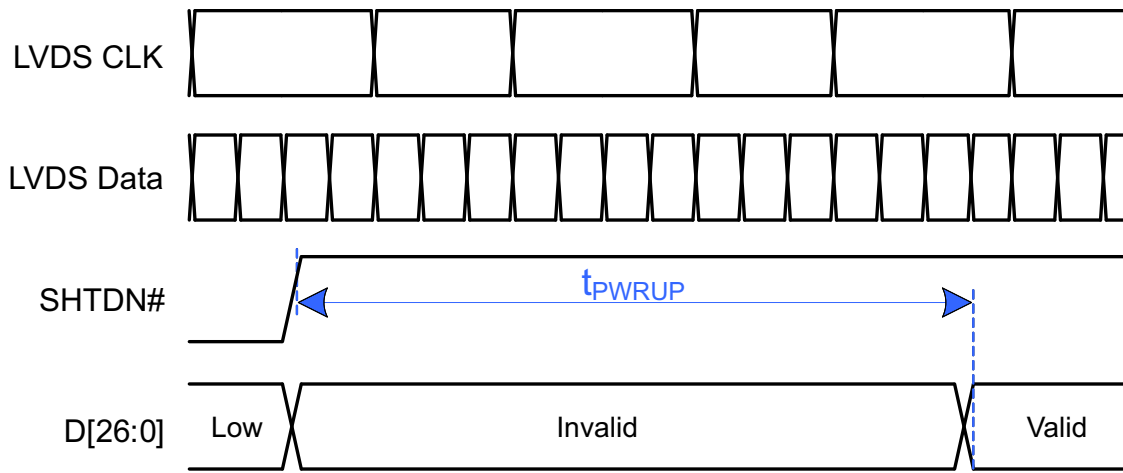
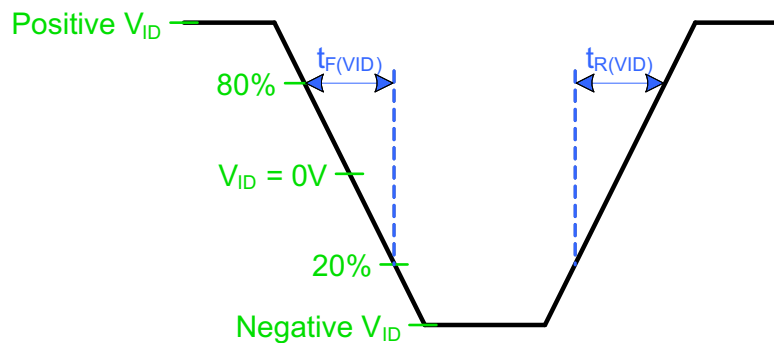

图 5. Time to Exit Shutdown Mode
图 6. LVDS Rise/Fall Time (Differential Voltage)
(1) Grayscale and 1010 test patterns are described by 图 5 到 图 6 和 表 1 到 表 2.
(2) Standby Mode can be entered in two ways: f_{CLK} = zero to 500 kHz, or a high V_{CM} on the LVDS clock. If the LVDS transmitter device disables its clock driver to a high-impedance state, the SN65LVDS822's integrated R_{PU} will pull V_{CM} high for the lower-power Standby state.